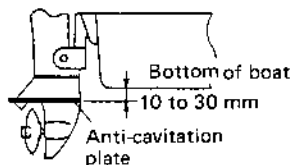

Fig. 2
- Clearance between anti-cavitation plate of the motor and bottom of the boat must be 10 to 30 mm. (Fig. 2)